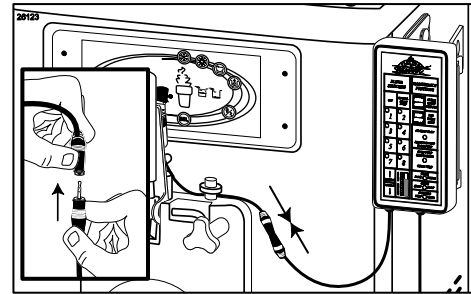

Figure 115
- Fully insert the Keypad stereo plug into the Spigot Switch jack and ensure that the connection is fully engaged. (See Figure 115.)